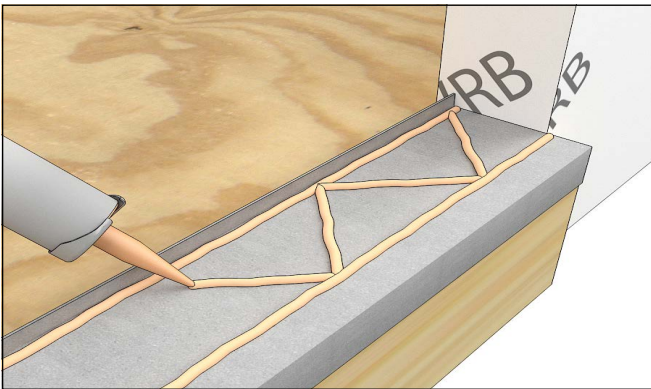

Figure 10
- 1. Apply three continuous beads of silicone to the top of the sill pan. See Figure 10.